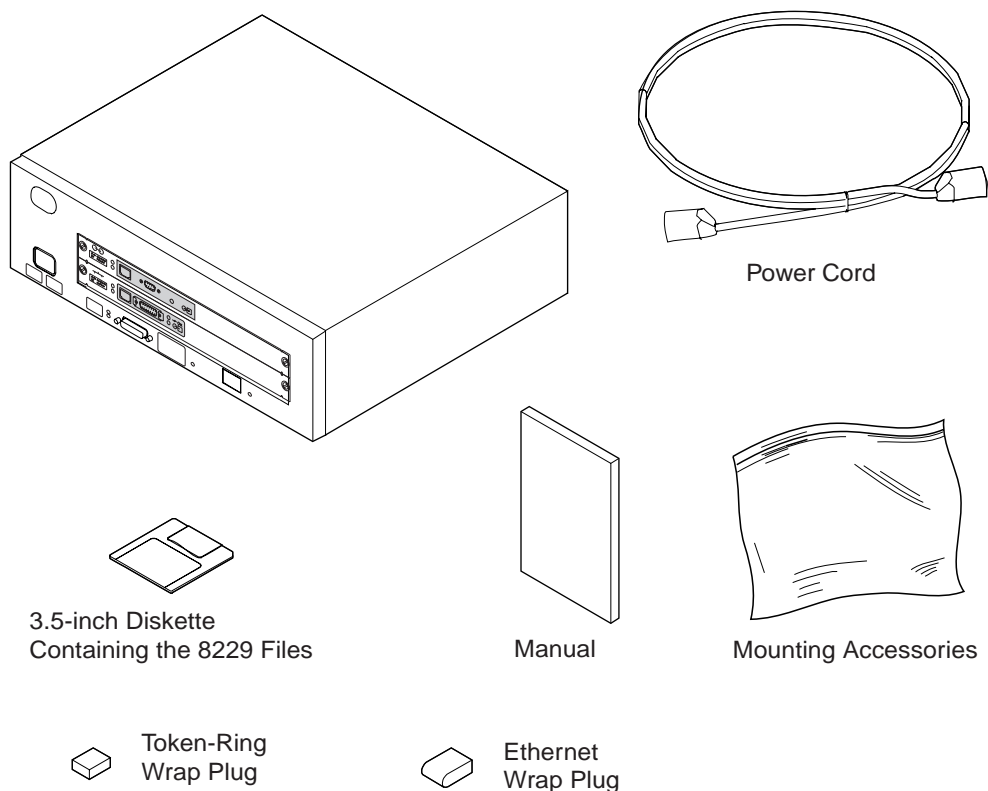

Figure 2-7. Contents of the Shipping Carton for the Ethernet Bridge.
- c. \_\_\_\_ Make sure that you have everything (see Figure 2-7), then go to step 2 on page 2-9.